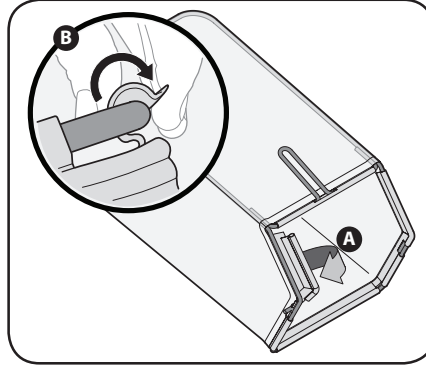

**Figure 2-7**
**NOTE:** On select units, use the two cable clips provided to secure blade control and drive cables to lower handle as shown in Figure 2-7.